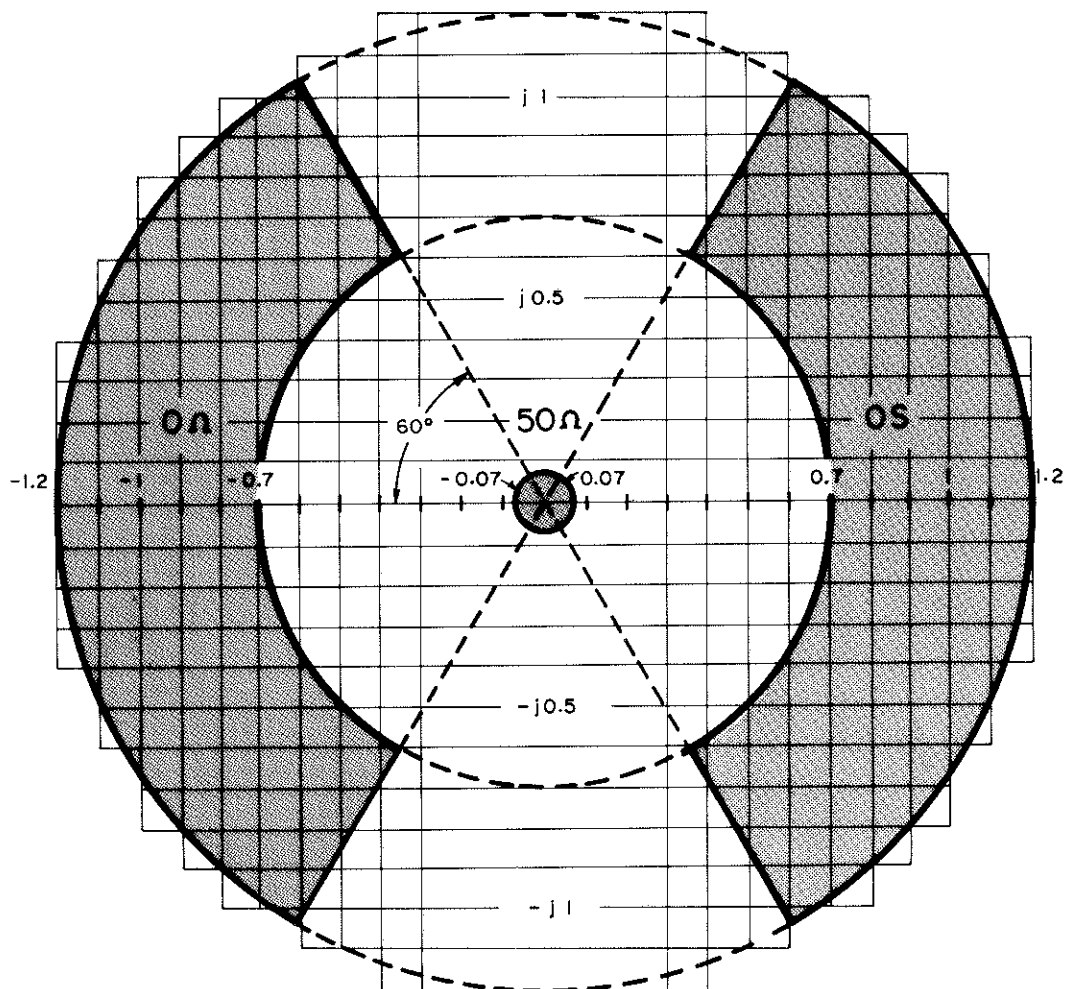

Figure 4-4. Calibration Data Test Limits.
- Monitor calibration data (measured Γ_x and Γ_y values) printed out for individual calibration frequencies. The print outputs should be within the test limits given in Figure 4-4.
- Perform auto-calibration again using the 0S and 50 Ω reference terminations. Verify that the print outputs are within the test limits for the respective termination (in Figure 4-4).
Note: If a printer is not available, compare the auto-calibration data, displayed on the DISPLAY A and DISPLAY B, with the test limits given here (easy to remember) and recheck only the critical test results for Figure 4-4.